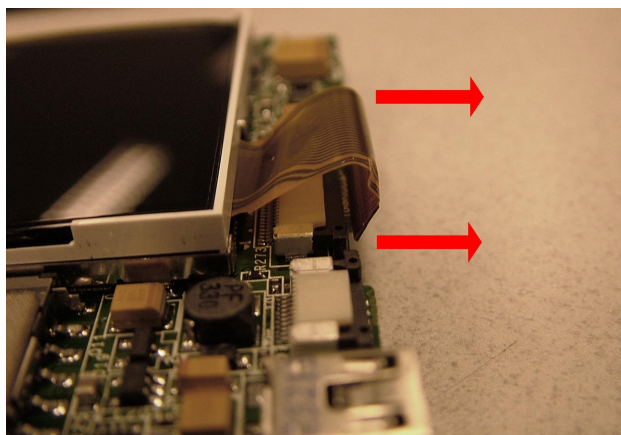

Fig. 9 Disconnecting the LCD flat cable.
6. Disconnect the LCD flat cable from the main board: Push the two clips in the indicated direction (see Fig 9) and take out the flat cable.